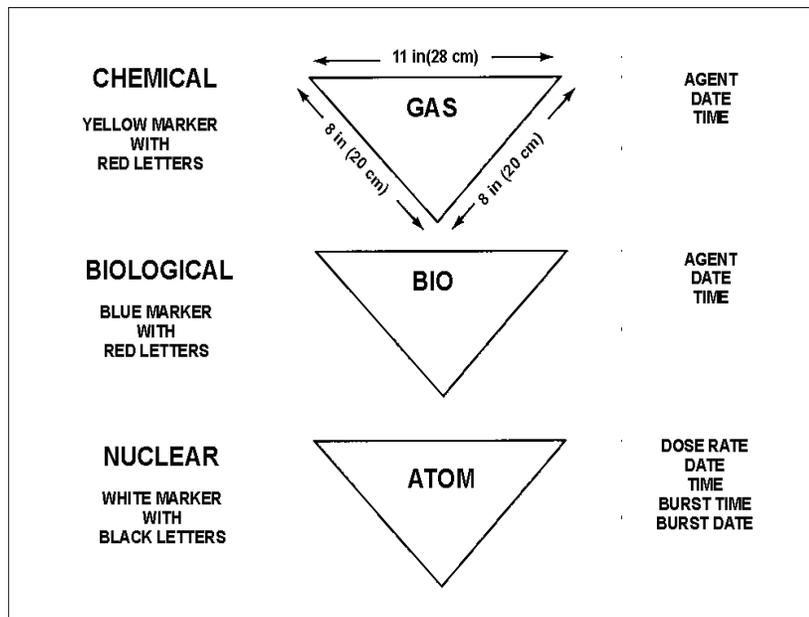

Figure 3-13. Markers for contaminated land areas
- *Identify* wastewater site. The location of the wastewater site must be marked with the appropriate NBC markers shown below in Figure 3-13.